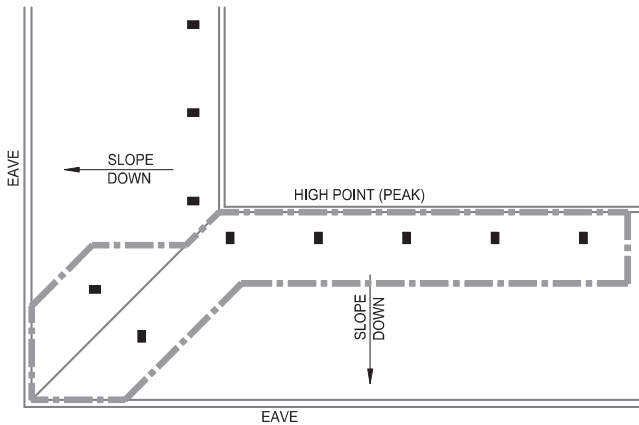

FIGURE 23A: 1 ROW PROTECTION CALCULATION
- Calculate the 5 most hydraulically demanding contiguous DS sprinklers located along the high point plus the 2 most demanding sprinklers along the hip line. See FIGURE 23A.